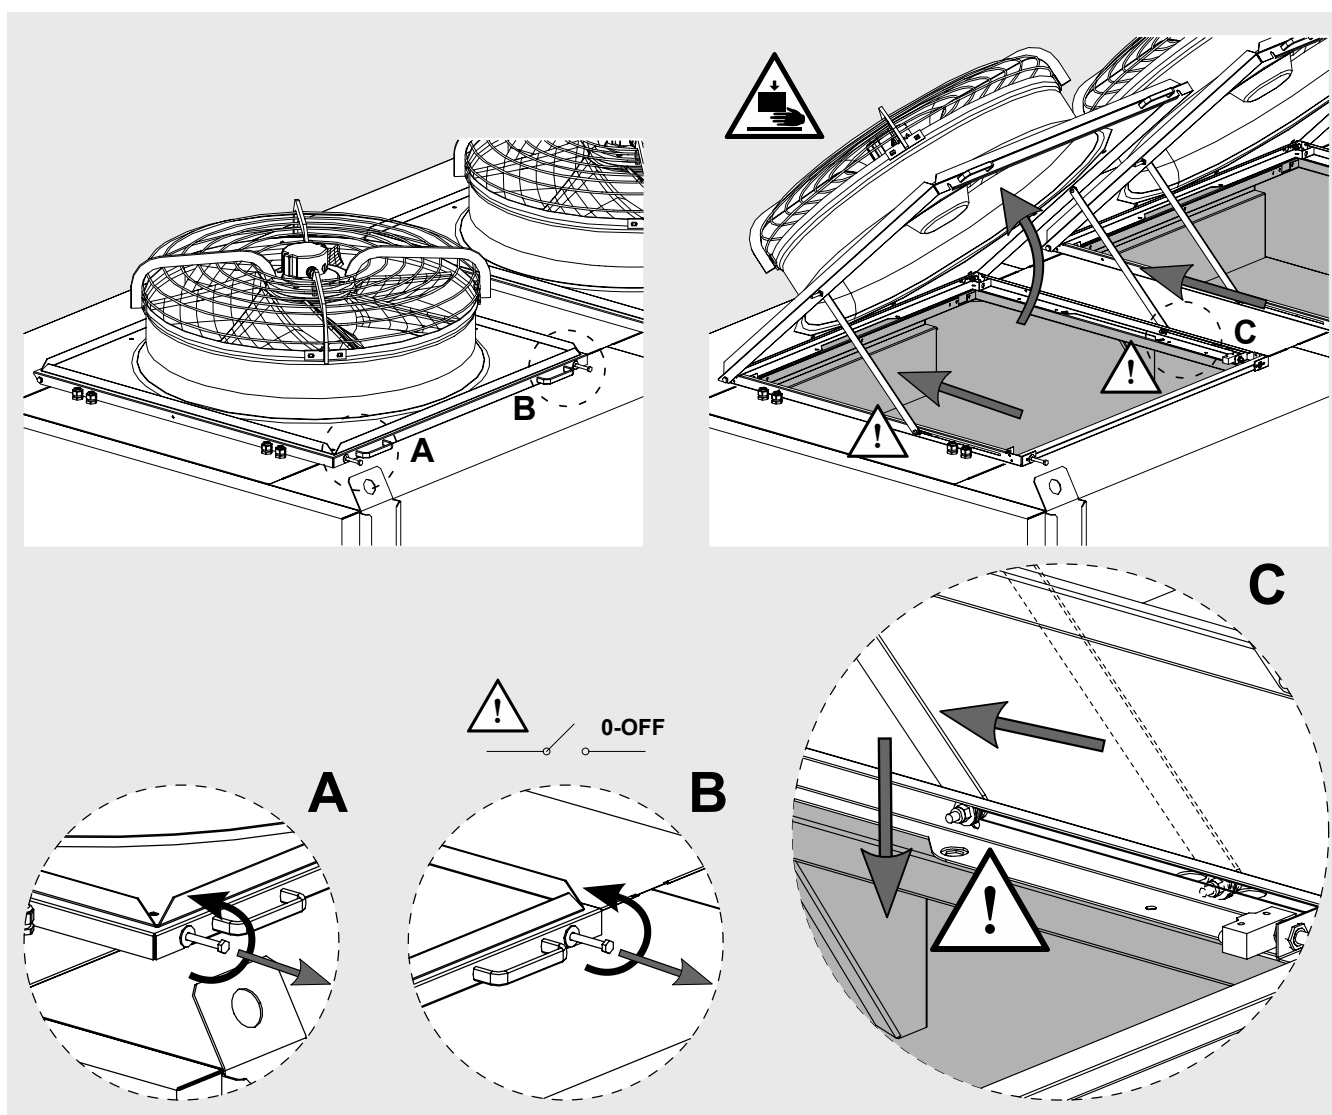

Figure 2
- 3.10.6 Let the side levers of the frame slide forward until they reach the blocking position, see "Figure 2". While keeping a handle of the frame with one hand, check that the side levers are in blocking position with the other. Do not leave the handle of the frame until it is sure that the side levers are blocked and the frame does not fold down. It is recommended the use of PPE (see Chapter 4).